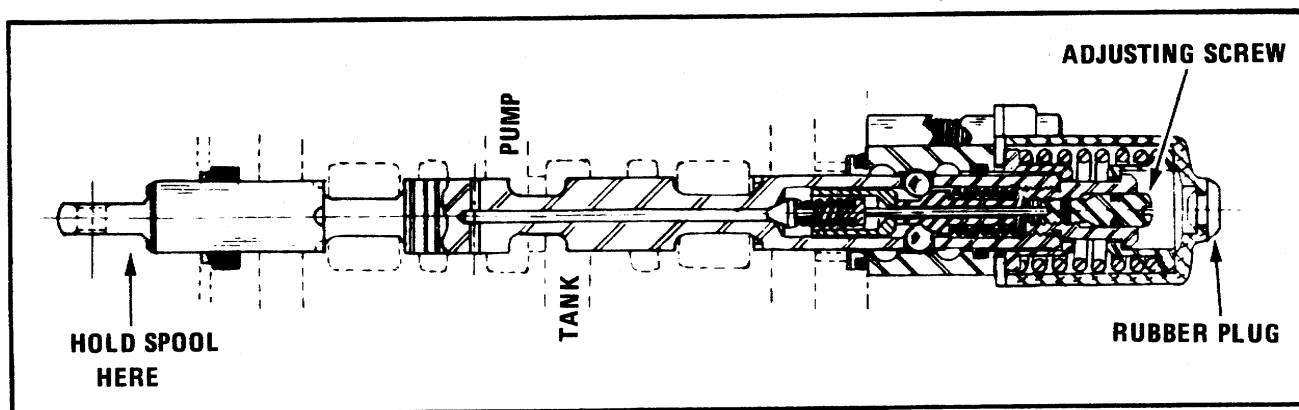

Figure 25. Blade/Slide Spool Detent Mechanism
11. If setting is incorrect, remove the rubber plug on the end of the blade spool to expose the detent release adjustment screw, see figure 25.
Be sure the internal spool does not turn in the valve while making this adjustment by holding the linkage end of the spool being adjusted, see figure 25.